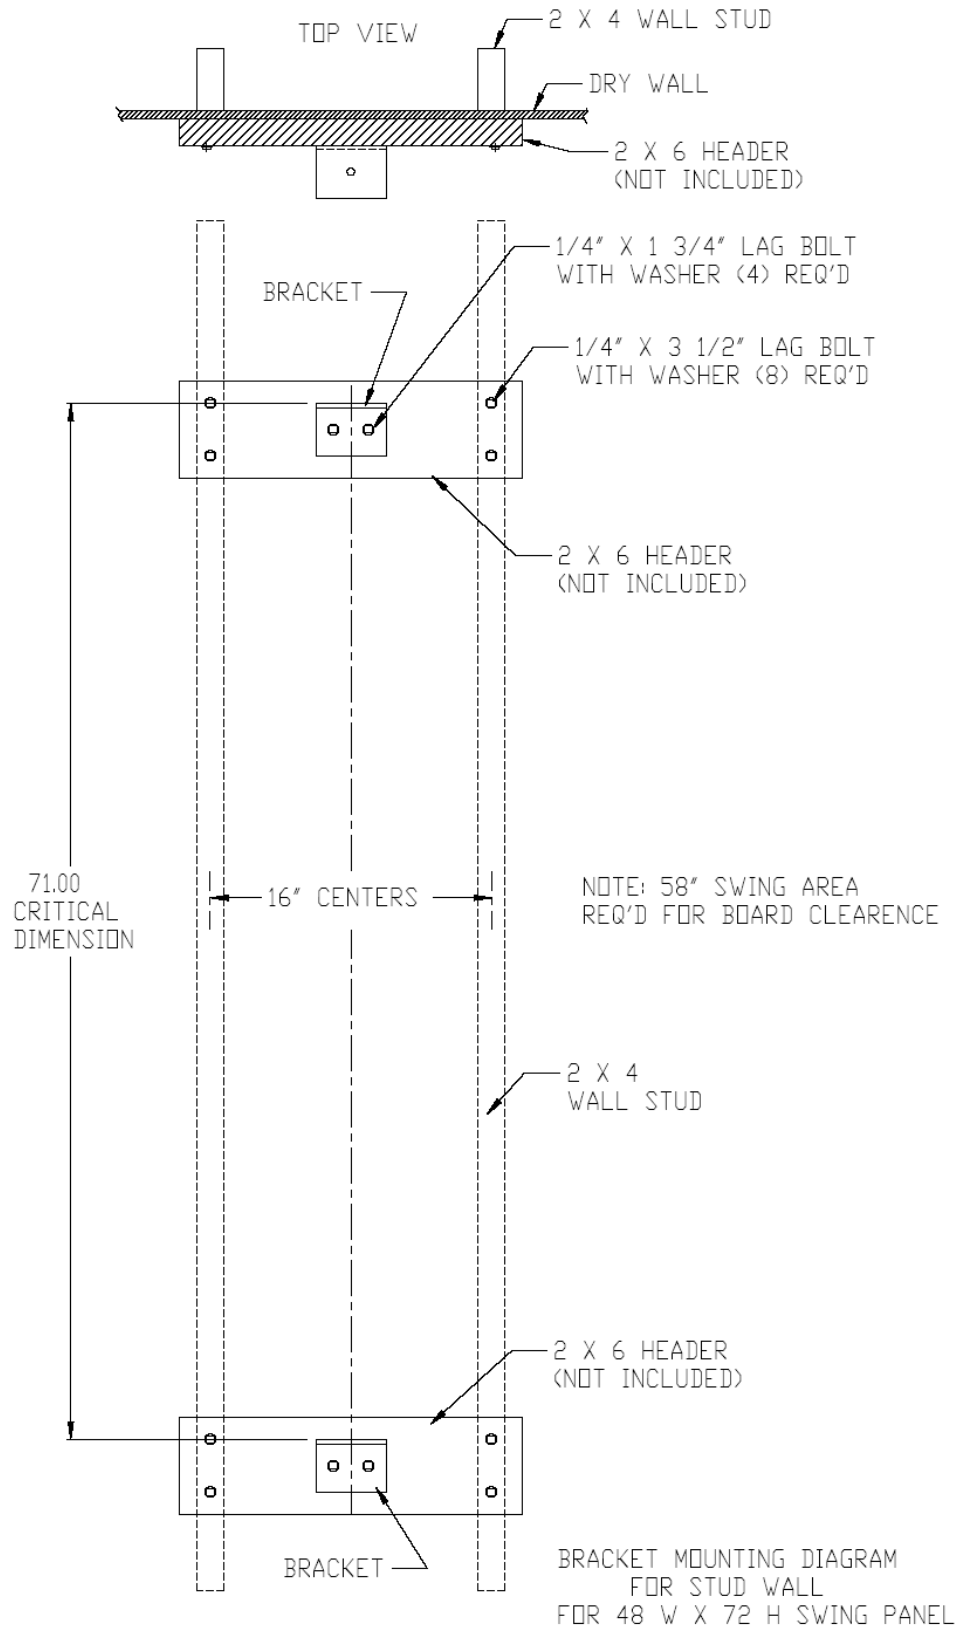

FIGURE 1-4
Note: Before starting step 6, it will be necessary to determine if your walls are plumb and structurally sound. It may be necessary to install some type of shim system or header for either or both, top and bottom wall brackets. (For 2" x 4" studed walls refer to figure 1-4 for header installation.)
Step 6. Bottom wall mount bracket Installation for concrete walls (refer to figure 1-1, 1-2 & 1-4): Each bracket/angle has been pre-drilled for wall and panel attachment. You will be installing your bottom bracket first. **A)** Determine the appropriate height you want to install off the floor or work surface. **B)** Using one angle bracket as your template, with surface having only one hole on top and flat surface with two holes against the wall at the desired height. **(Avoid mortar joints between concrete blocks.)** **C)** Making sure wall mount bracket is level; mark both hole locations on the wall. **D)** Using 3/16" masonry bit and hole location markings on the wall, drill two holes 1-1/4" in depth. **Do Not Ream Out or Oversize the holes** **E)** Align bracket back over holes drilled and using a #2 Phillips head bit and electric drill set at medium speed, install (2) 1/4" x 1-1/4" masonry screws. **. WARNING: Over-tightening could cause holes to become oversized. If holes become enlarged, you must properly repair and re-drill, relocate mounting brackets or install a wood header.** For 2 x 4" studed walls refer to figure 1-4 for installation.
When installing a system to other types of wall structures it is recommended that a 2" x 6" header be securely installed to multiple studs and that 1/4" lag bolts be used in place of the supplied masonry bolts to attach wall brackets. (Refer to figure 1-4 for header installation)